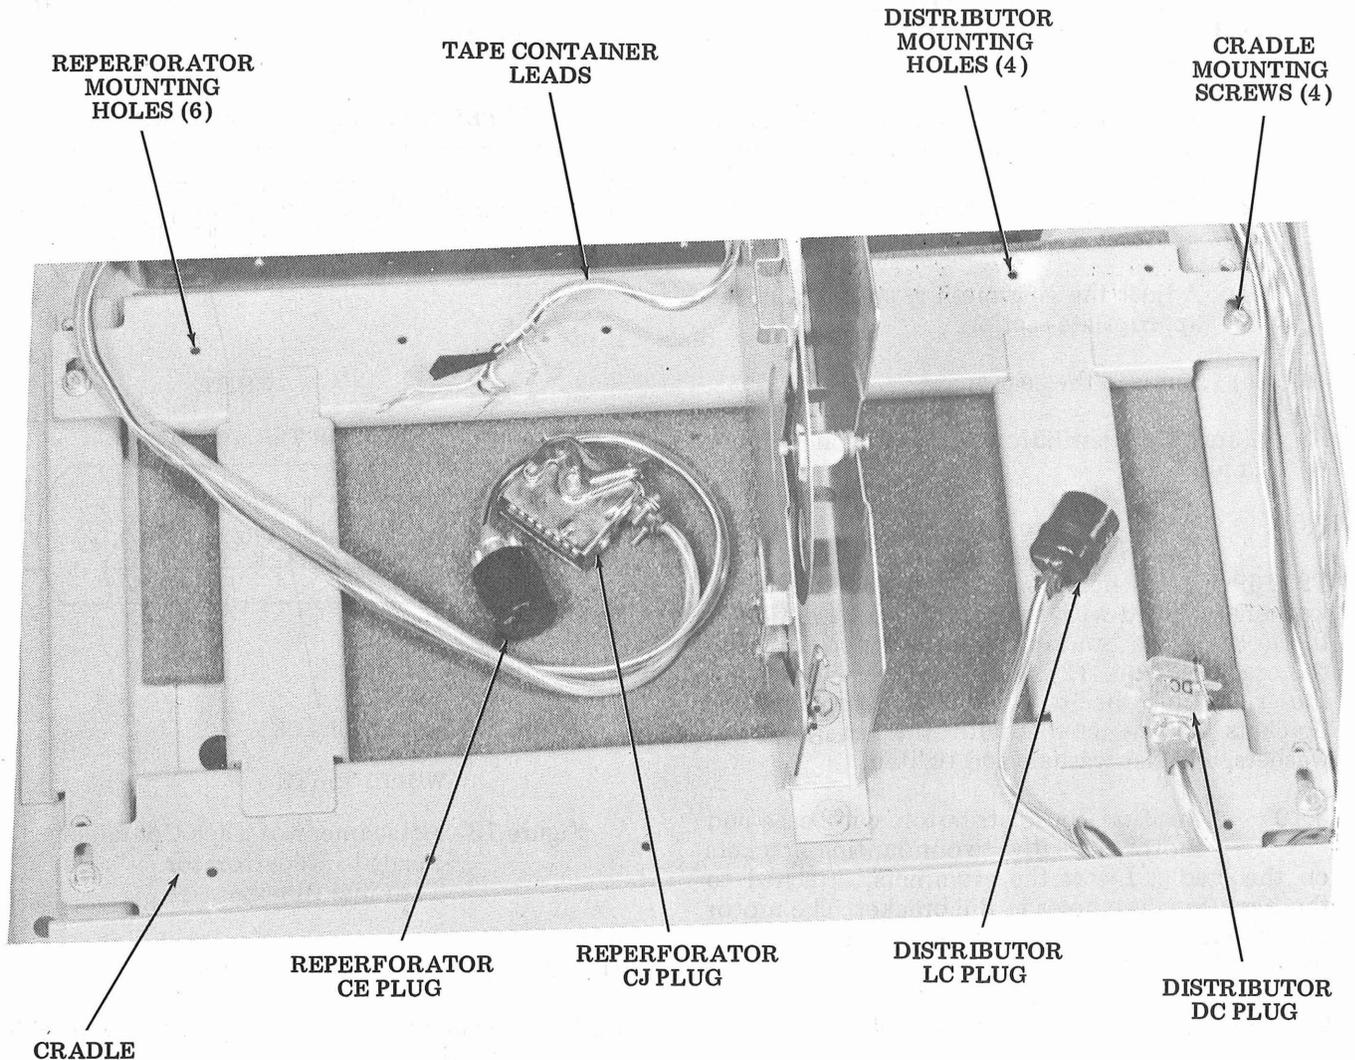

Figure 12 - Upper Component Mounting Details
3.04 Remove the four mounting screws that secure the cabinet cradle to the four adjusting bushings, and lift the cradle out of the cabinet (Figure 12).
Center the slotted holes in the brackets over the tapped holes in the cradle (Figure 12). These holes are located to the left of the tape container. Secure the brackets to the cradle with the screws, lockwashers, and flat washers and tighten finger-tight.
- (c) Mount the TP156628 intermediate gear to the intermediate drive shaft assembly using two (2) TP151631 screws and two (2) TP2191 lockwashers found in the muslin bag.
3.09 There are two (2) TP304111 brackets, four (4) TP151723 screws, four (4) TP2669 lockwashers, and four (4) TP35826 flat washers supplied with the distributor base. Center the holes in the brackets over the tapped holes in the cradle (Figure 12). These holes are located to the right of the tape container. Secure the brackets to the cradle with the screws, lockwashers, and flat washers and tighten.